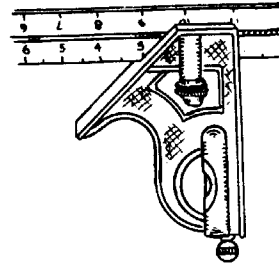

FIG. 6 COMBINATION SQUARE
1. Insert the blade through the slot in the head so that the round clamping groove in the blade engages with the end of the clamping bolt (Fig.6).